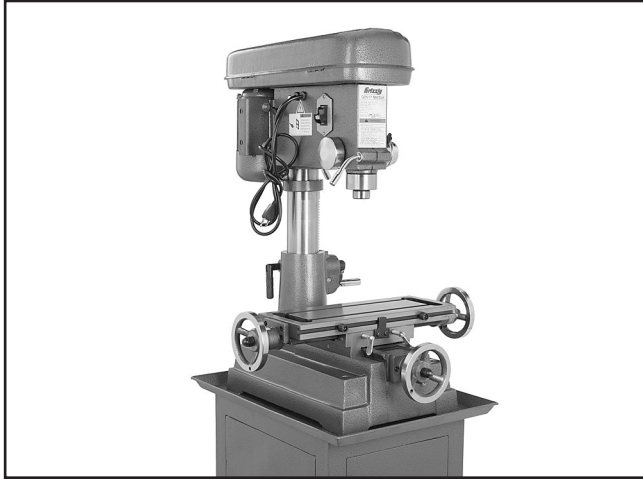

Figure 10. Headstock installed on base column.
5. With the help of an assistant, place the mill/drill headstock onto the column, as shown in **Figure 10**.